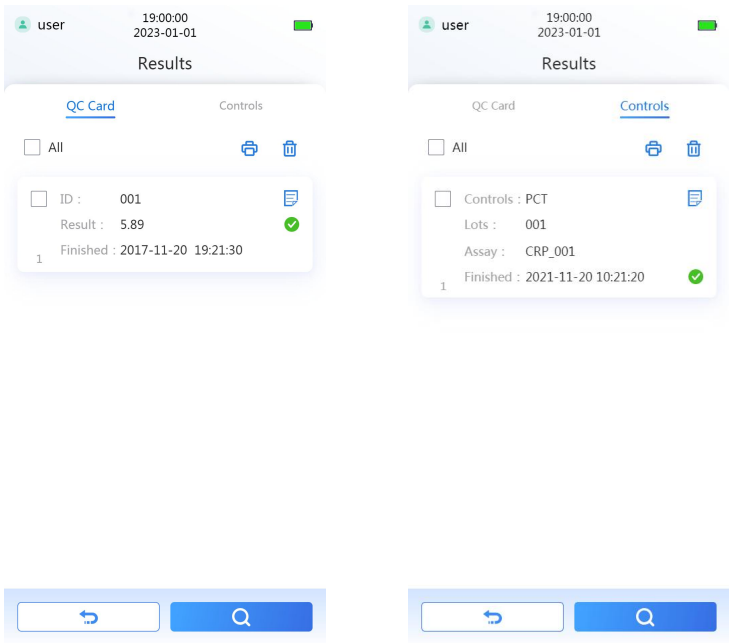

Figure 16 QC results interface
16. Click on the QC result button  in the QC interface to enter the QC result operation interface (Figure 16 below), you can search for the results of the control materials or QC card, and the result list will pop up after searching, and you can print/delete the results according to your needs.